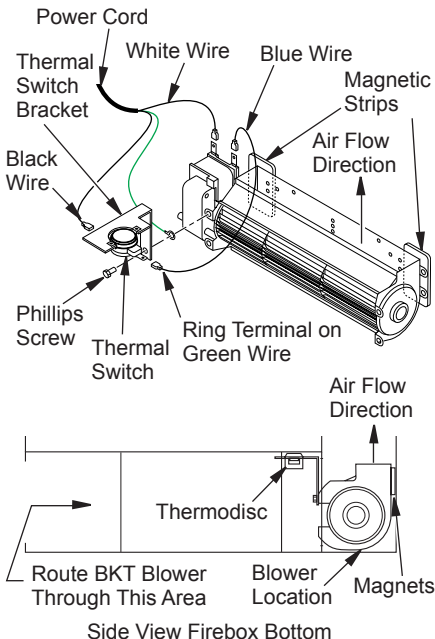

Figure 40 - Blower Model BKT
1. Place green ground wire with ring terminal between bottom hole on thermal switch bracket and top ear hole on blower assembly. Insert Phillips screw into all three pieces and tighten securely (see Figure 40).
3. Place blower against lower rear wall of firebox outer wrapper with exhaust port directed upward and thermodisc positioned up near fireplace bottom. Thermodisc must be oriented near fireplace bottom as shown in Figure 40 in order to sense temperature and properly operate. Blower will be held in position against back wall by magnets incorporated onto blower housing (see Figure 40).